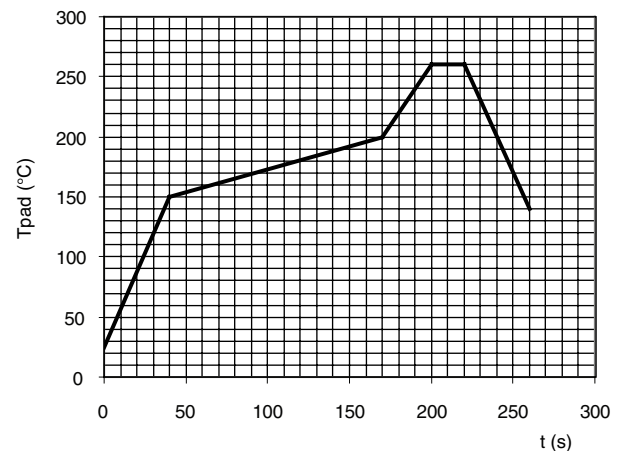

Fig.4 Maximum temperature load during infrared reflow soldering measured on the soldering pad
**Resistant against 260 °C reflow temperature;** see Fig.4. Any temperature versus time curve which does not exceed the specified maximum curves may be applied.